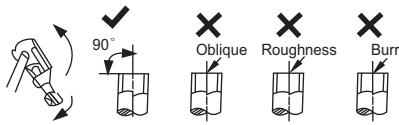

Fig. 13 – Pipe Cutting
- a. Cut the pipe, with a pipe cutter, at 90 degrees (see Fig. 13).